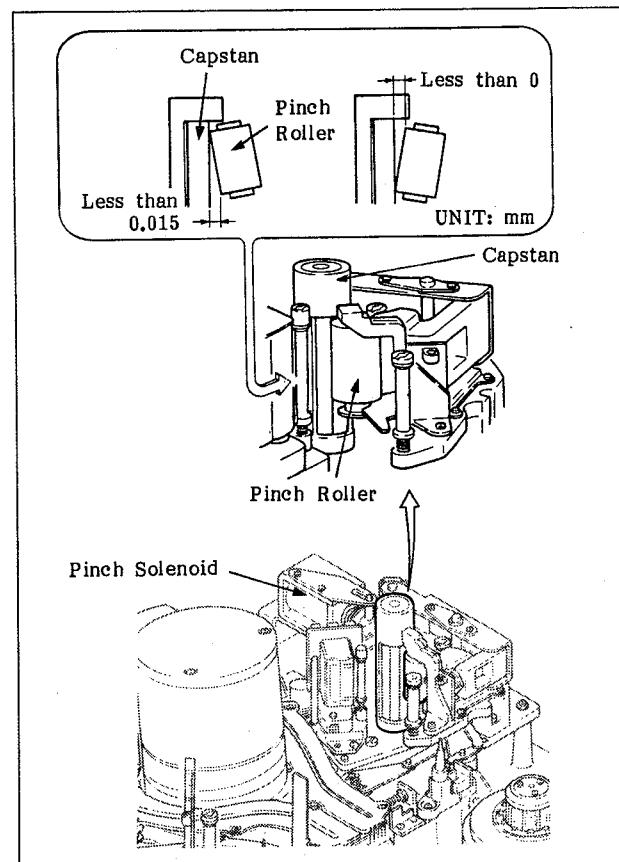
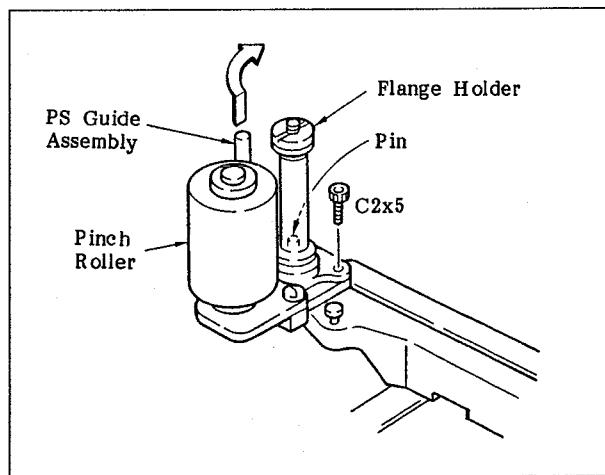

Fig. 6-90 Check the Pinch Roller Zenith
Fig. 6-91 Movement of the PS Guide Assembly
- b. Press the **F3** (C), **4**, **SET**, **F6** (F), **2**, **SET**, and **<** keys on the control panel in that order to set the machine in the threading status without loading the cassette tape.
- c. Press the **F6** (F), **3**, and **TEST** keys on the control panel in that order. Then press the **< + >** keys to push the pinch roller against the capstan once and then to separate them.
- d. Bring the pinch roller close to the capstan slowly by pushing the pinch solenoid by a hand. Check that the inclination of the pinch roller and the capstan meets the specification shown in Figure 6-90 when the pinch roller starts to rotate. When they do, go to step k. If they do not, make the following adjustments.
- e. Press the **F6** (F), **2**, **SET** and **>** keys on the control panel in that order to set the T arm in approximately a half-threading condition.
- f. Remove the set screws (C2x5) that hold the PS guide assembly and move the assembly in the direction of the arrow, as shown in the figure. (Figure 6-91) If the PS guide assembly cannot be moved, turn the flange holder counterclockwise to move up the T5 guide.